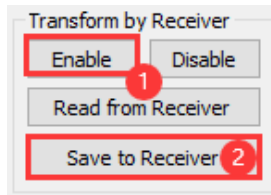

Fig 8.3.4 Transform by receiver
- Check the screen to see the effect after adjusting the color gamut, as shown in Figure 8.3.4.